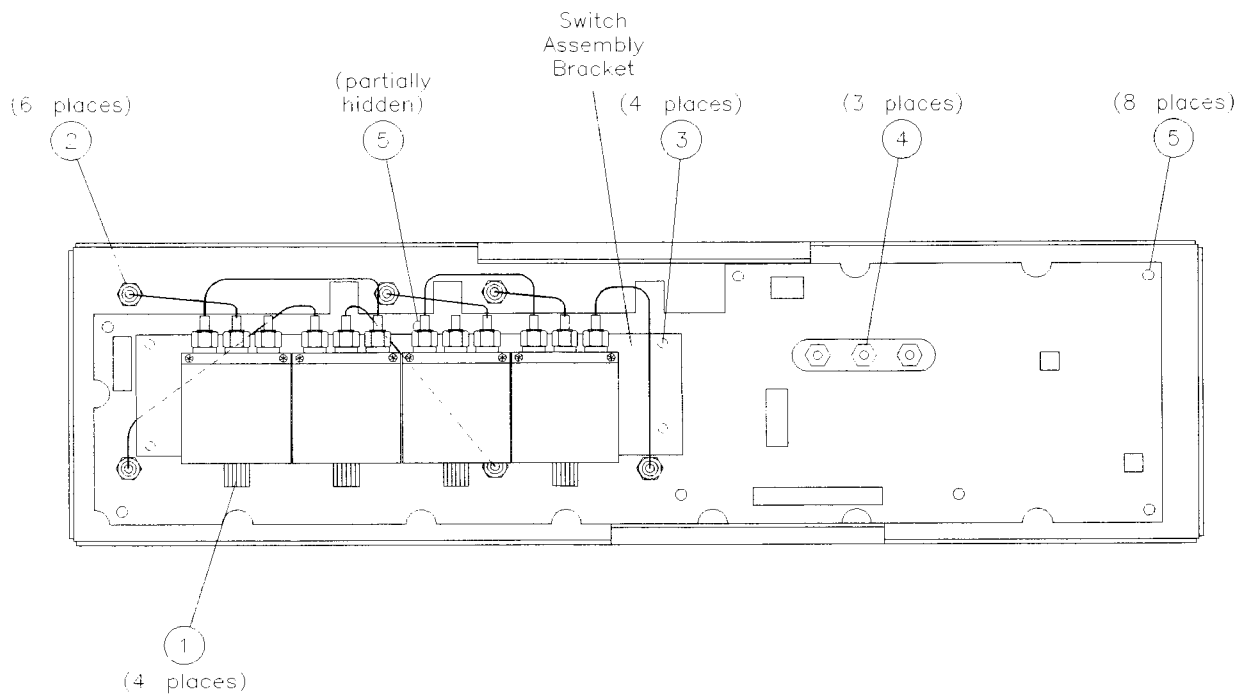

Figure 4-6 A1A1 Interconnect Board Replacement
2. Disconnect the four ribbon cable assemblies that go from the front-panel switch assembly to the front-panel A1A1 interconnect board (1). Refer to Figure 4-6.
3. Disconnect the six semi-rigid cables (three on each side) that attach the front-panel switch assembly to the front-panel interconnect board (2).
4. Remove the four screws, one at each corner, that secure the front-panel switch assembly to the front-panel interconnect board (3).
6. Remove the three extended hex nuts from the front-panel interconnect board using a 6 mm nut driver (4).
7. Remove the eight screws, that secure the front-panel interconnect board to the front-panel assembly (5).